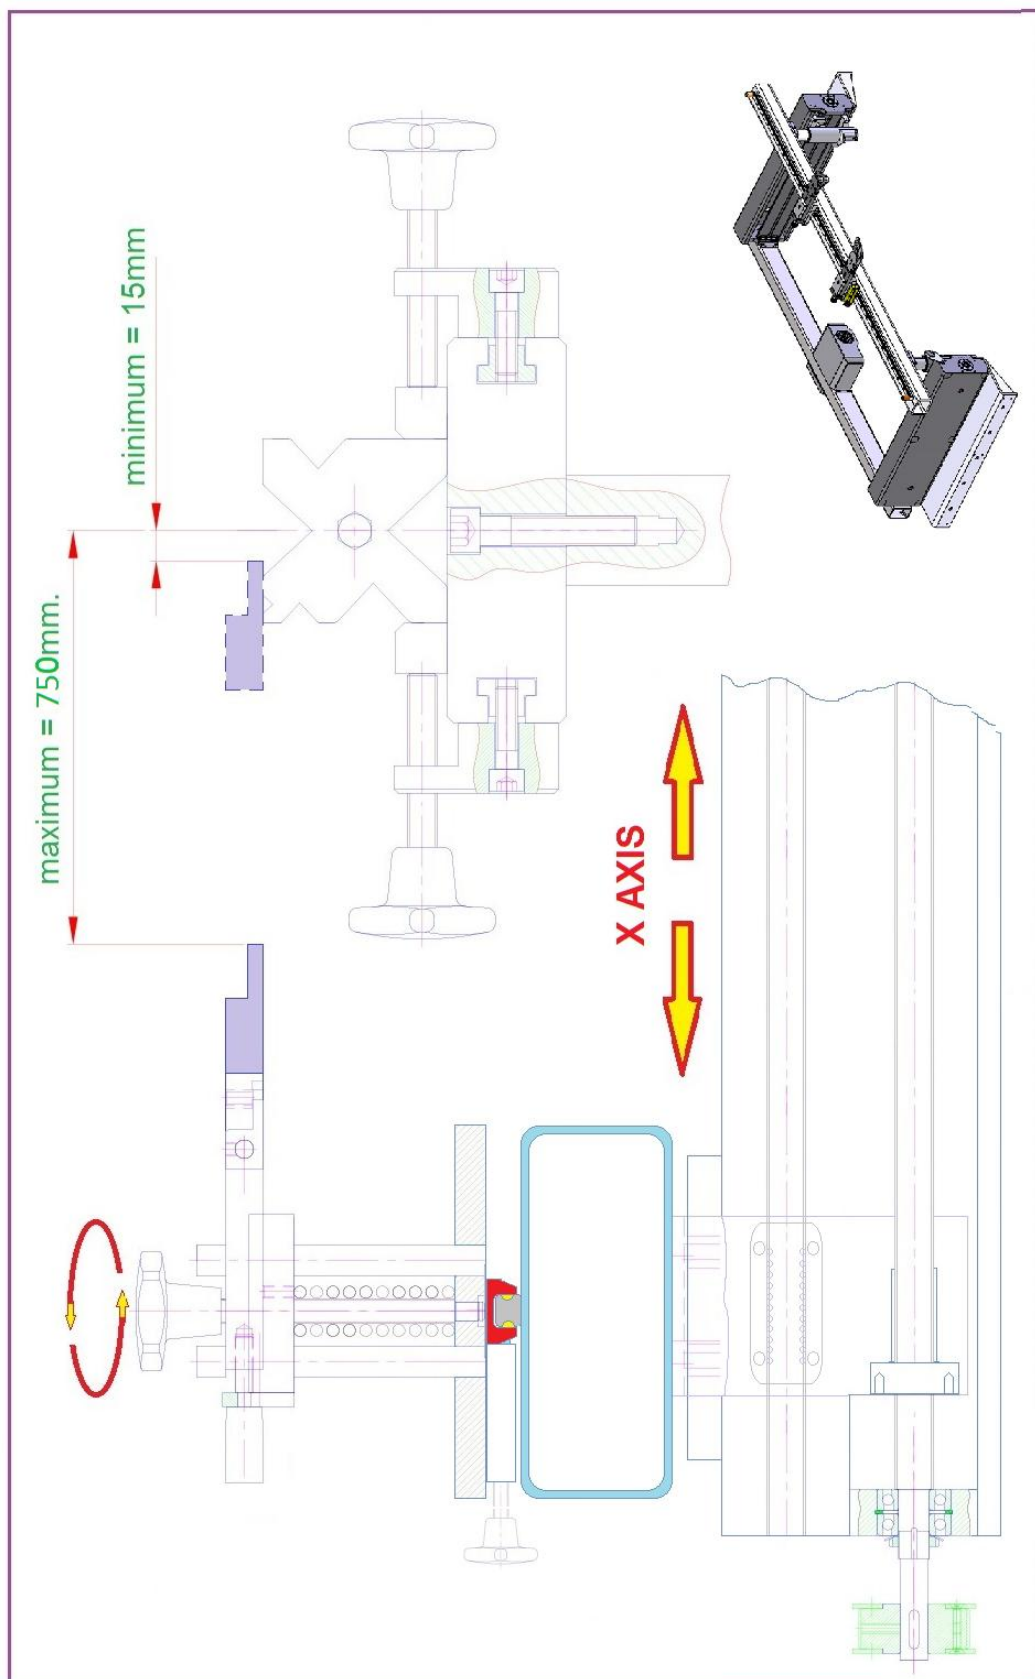

Figure-42: X Axis movement distance of backgauge fingers.
1) Backgauge X axis adjustment realize from CNC command panel. (See Figure-42).